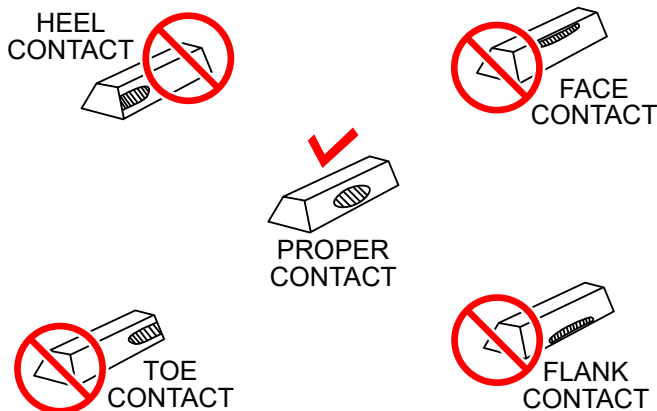

Figure 45. Gear Teeth Alignment
3. If the gear teeth are not contacting properly (Figure 45), adjust the pillow block to correct the problem.